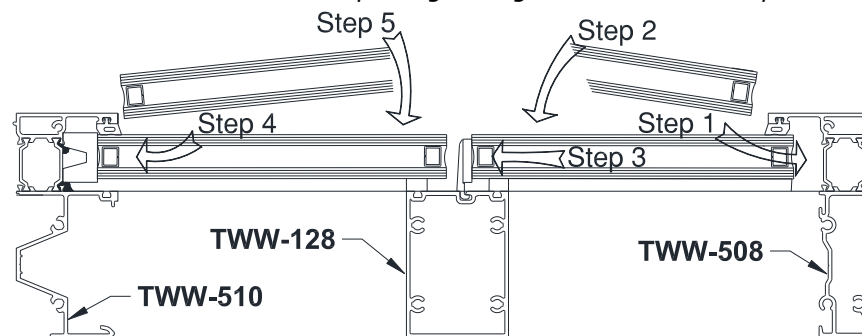

Figure 51: SSG Glass Installation
- 16.2.1 Center glass in the opening. Make sure proper glass penetration is achieved. Insertion steps are shown in *Figure 51*.